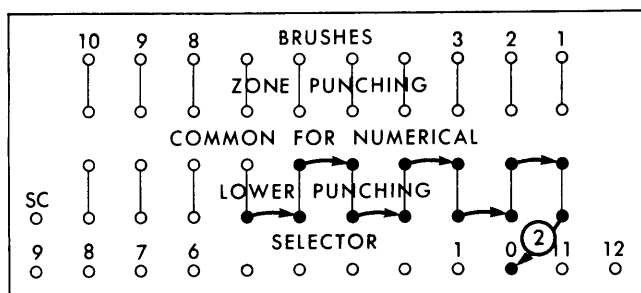

Figure 38. Zero Elimination (82)
Zero Elimination During Numerical Sorting: Wire the panel as shown in Figure 38 to reject cards requiring no further sorting after the column being sorted.
- Wire the lower-punching hubs together and to the zero selector hub (Figure 38).
Accelerated Alphabetic Sorting: Zero elimination (Figure 38) can accelerate alphabetic sorting by rejecting cards with short names that do not have to be sorted on every column of the alphabetic field. In the example in Figure 39 all cards punched in 5